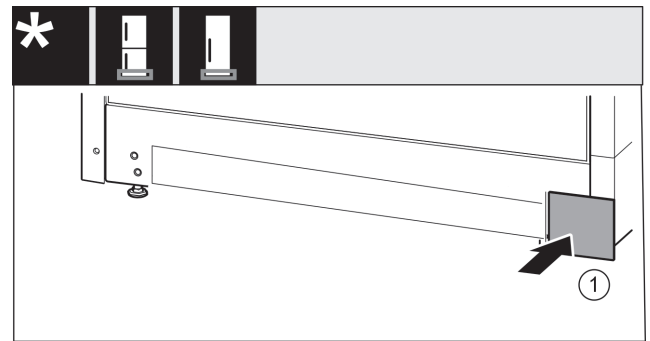

Fig. 18
- Put back the cover on the other side. Fig. 18 (1)